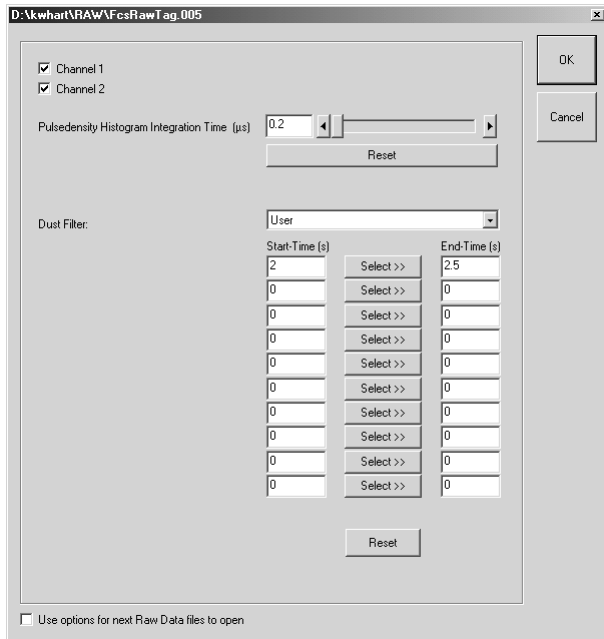
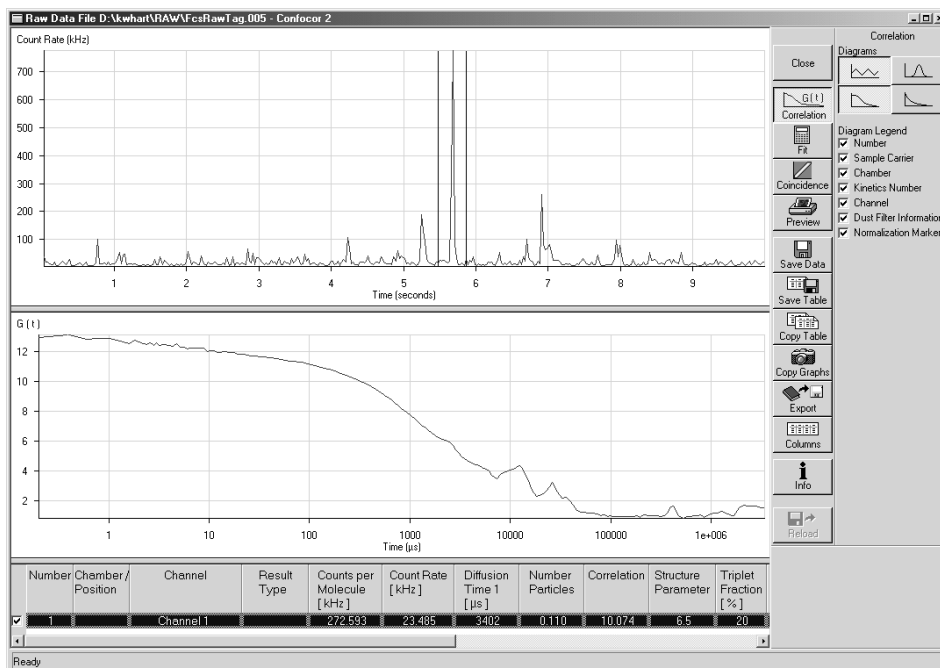

Fig. 5-368 The Options menu for loading raw data files with dust filter set to user defined
Fig. 5-369 The Count Rate Trace window with region of interest framed
- Selection of **User** (see Fig. 5-368) will give you the possibility to select up to ten regions that should be discarded for correlation analysis (for auto and cross-correlation). Type in the respective start times and end times in s of the regions you want to discard. To this end it is recommended to open the raw data with the dust filter set to **Off**, look for the peaks you want to cut out, and reopen the same raw data file by pressing the **Reload** button. Type in the corresponding boundary values and click ok. Alternatively, press **Select**, click with the left mouse button in the old opened file and position the two black bars to frame the region that you want to discard. Press **Select** again, which will display the position of the boundaries. Click ok and the diagram will reopen. The discarded regions will appear greyed out (see Fig. 5-369, 5-370). The regions taking into account and separated by discarded regions will be separately correlated and the average will be displayed. The **Reset** button will reset all typed in values to zero.